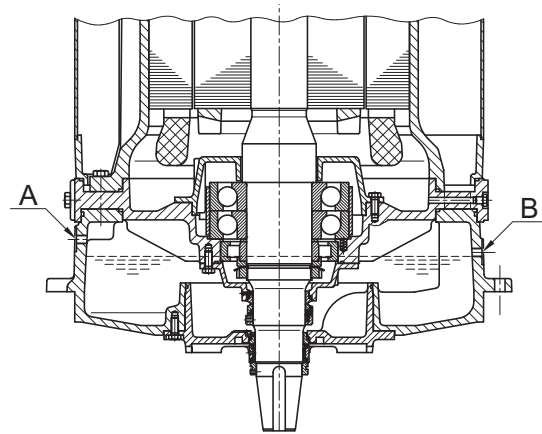

Fig. 9 Correct oil level of upright position
2. Use screw B for indication of the level of oil in the oil chamber. See fig. 9.